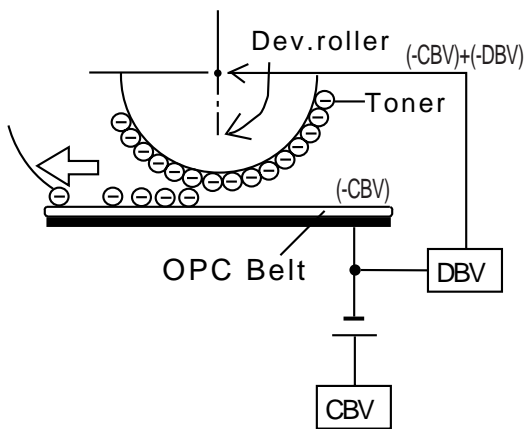

Fig.4-13
- ②. Dev.roller has been biased to the potential $-DBV(V)$. Fig.4-13 describes the relationship established between the potential of toner, the potential $-V_0(V)$ at the non-exposed area of OPC belt and the potential $-VR(V)$ at the exposed area of OPC belt.
- ③. Developing is processed by the toner adhering to the OPC belt due to the attraction between the potential of toner and the potential $-VR(V)$ at the exposed area of OPC belt. (Toner image is formed (visible) on the OPC belt.)
- ④. On the other hand, no development takes place at the non-exposed area because the potential of toner and that of OPC belt is identical pole and therefore repels each other.